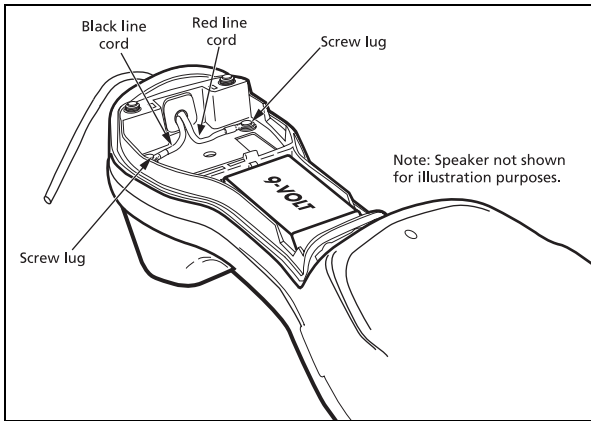

Figure 8. Removal/Installation of Line Cord Screw Lugs
- Slip the line cord screw lugs (see Figure 8) out through the hole in the end of the housing.
- Fasten the red wire lug to the PCB (Ring) with screw and washer (see Figure 8).
- Fasten the black wire lug to the PCB (Tip) with screw and washer (see Figure 8).